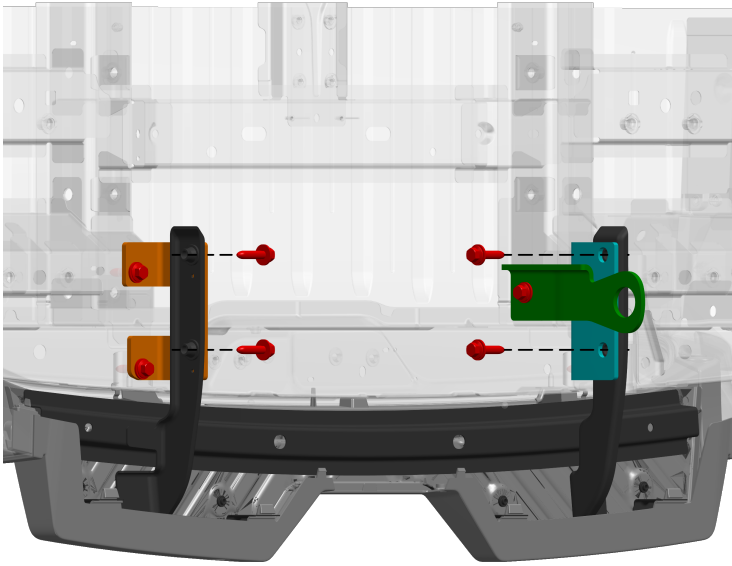
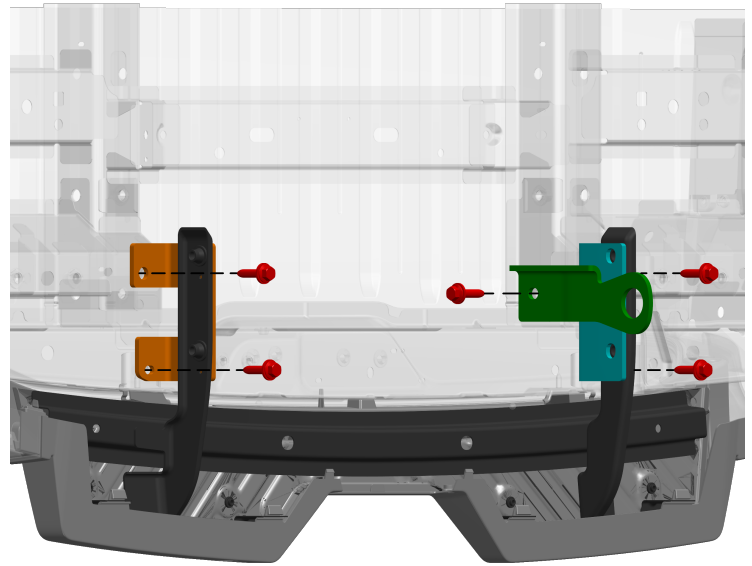

Figure 3
Figure 4
2. Remove the two vertical fixings and one horizontal fixing from the nearside drop-down bracket and two vertical fixings from the offside drop-down brackets **Figure 3**, fully remove and discard as shown in **Figure 4**.